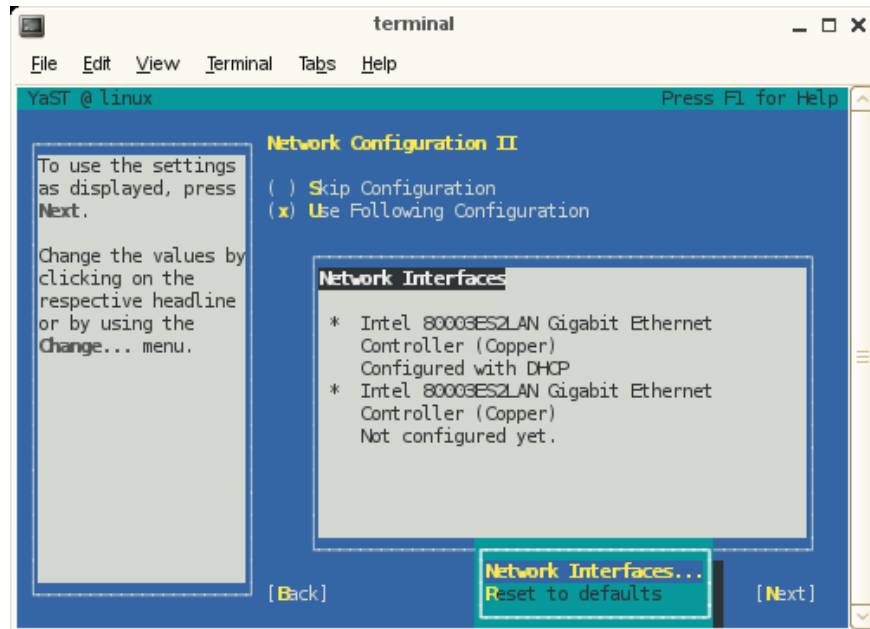

Figure 2-4 Network Card Configuration Interfaces Screen
8. The **Network Configuration II** screen appears. Select **Change** and a small window pops up that lets you choose **Network Interfaces...** or "**Reset to Defaults**" (as shown in Figure 2-4 on page 39). Choose **Network Interfaces**. Click **Next** to continue.